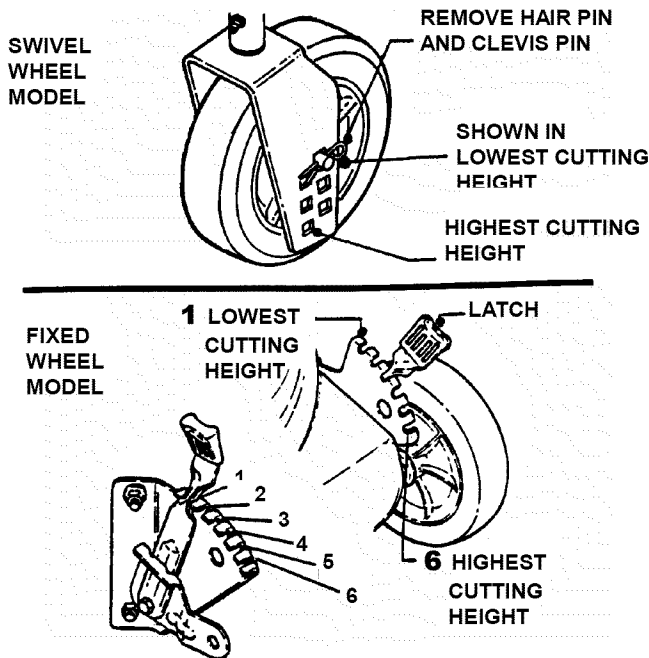

FIGURE 2.7
**1. Fixed Wheel Models:** Pull the height adjusting latch outward and move to desired cutting height. See Figure 2.7.